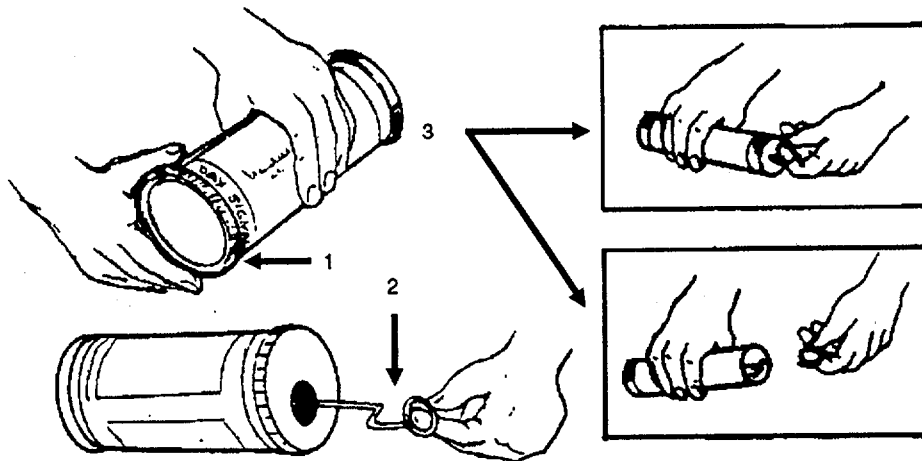

Figure 2-13. Smoke and Illumination Signal Flare
- f. Smoke and Illumination Signal Flare. Instructions are printed on the outside of the flare for its use. The ORANGE end is for daylight use. The daylight end produces an ORANGE smoke. During daylight, the orange smoke can be seen at a distance of two to three miles (3 to 5 km) at an altitude of 3,000 feet. The RED end is for night use. The red end has three raised dots on the cap and dots or bumps on the ridge just below the edge of the end cap. The night flare produces a bright illuminating RED smoke. During darkness, the illuminating night flare can be seen at a distance of two to three miles (3 to 5 km) from an altitude of 3,000 feet. The average burning time of the flare is 18 seconds at See Figure 2-13.
- (1) Remove the end cap (1, Figure 2-13) from either end of the flare. - RED for night use or ORANGE for daytime use.
- (2) Grasp the signal firmly with one hand. Hold the signal close to the chest in a horizontal position with the active end of the signal pointed AWAY from the body.
- (3) Insert the index finger of the free hand into the pull ring (2, Figure 2-13), which frees the soldered end of the cap. Pull the cap. If the cap does not release, bring the pull ring over the rim of the can and press down with the heel of your hand, using the ring as a lever to break the seal.
- (4) Make a steady, straight, horizontal pull until the pull ring and tab separate from the signal end, (3). The signal will activate when the tab separates from the signal. Continue raising until a full arm's length is reached. Point the activated signal end upward, at a 45-degree angle until the signal has burned out.
- (5) For additional operating instructions refer to TM 9-1370-206-10.